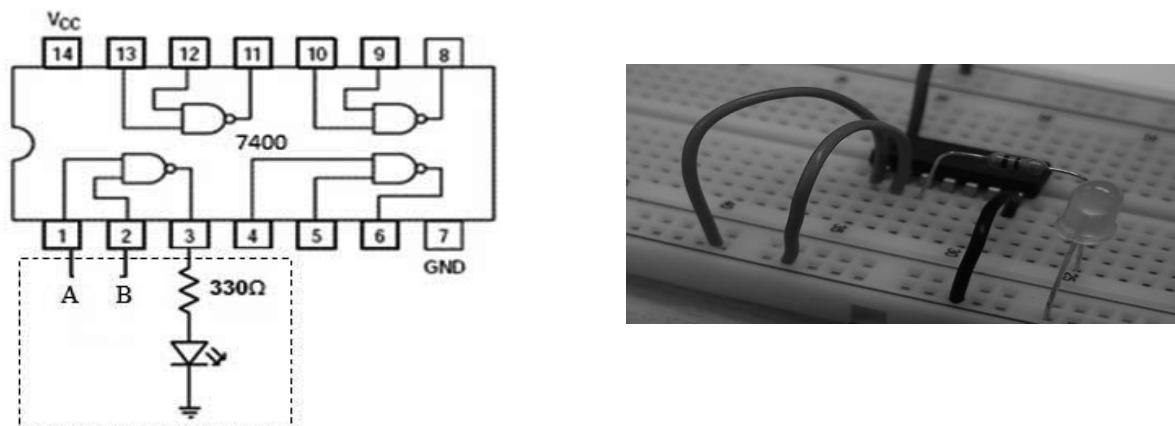

Figure 2.3: Sample Circuit
- Make the connections as per figure 2.3 on breadboard and give supply voltage to relevant pin as per logic level.